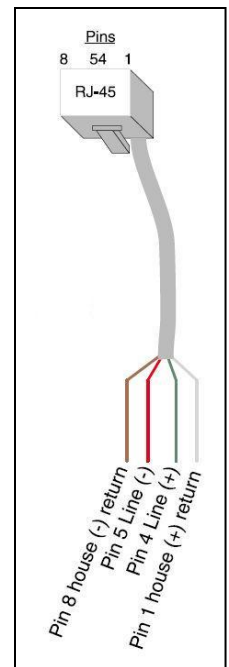

Figure 3
- 1) The security interface can be enabled to allow line seizure and dial out capability to most security systems. Connect the RJ31X cable (supplied w/security system) to the RJ45 "security" jack. Turn off "Line 1" on the test switch to activate the security line. Connect the terminals of the RJ31X cable as described in security system instructions (see **Figure 3**).